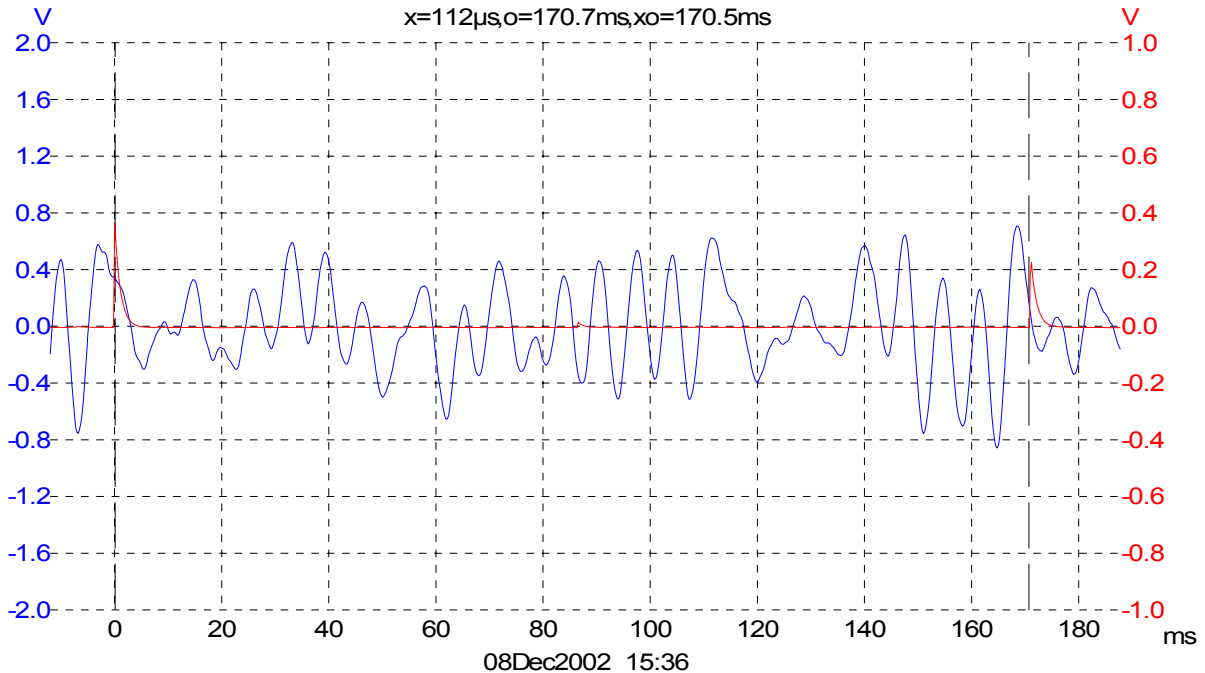

Figure 11
*The sensor signal is delayed in relation to the engine firing order. In other words, the sensor signal has a delay in the exhaust of 1 cylinder for a 4 cylinder engine and 2 cylinders for a 6 or 3 cylinders for 8 cylinder engines. It is important to note that the number 1 plug firing is the event to which we are triggering the display. The cylinder must rotate 180 degrees to begin the exhaust phase of the cycle...this accounts for the offset we see in our display. In the pattern in Figure 11 we see the timing spike at the point the number 1 plug fires. **The result of what happens in the cylinder is not seen until a 180 degree rotation of the crankshaft has taken place and the opening of the exhaust valve occurs. This is seen as an offset to the right of trigger (plug #1) for exhaust readings and as an offset to the left for trigger (plug #1) for vacuum readings.***
Figure 11 shows an example of an idle test as seen from the exhaust: